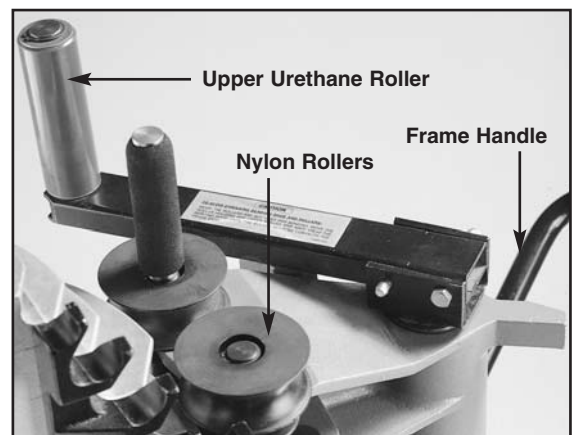

Figure 7. Position Roller Support
2. Move the roller housing against the frame stop. See Figure 11. The upper urethane roller must be on the outside (toward frame handle) of the roller housing. See Figure 7. If it's not, pull the ring pin. Lift the roller support arm, swing it over the roller housing, lower the handle into the bracket and insert the ring pin.